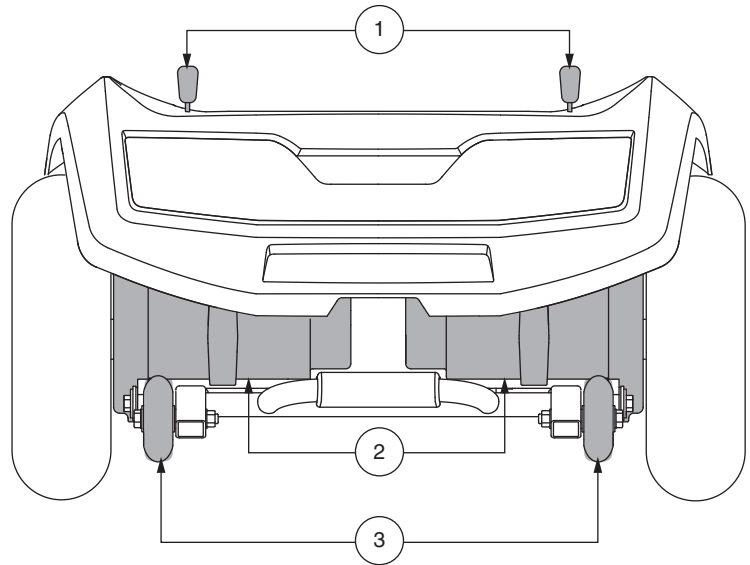
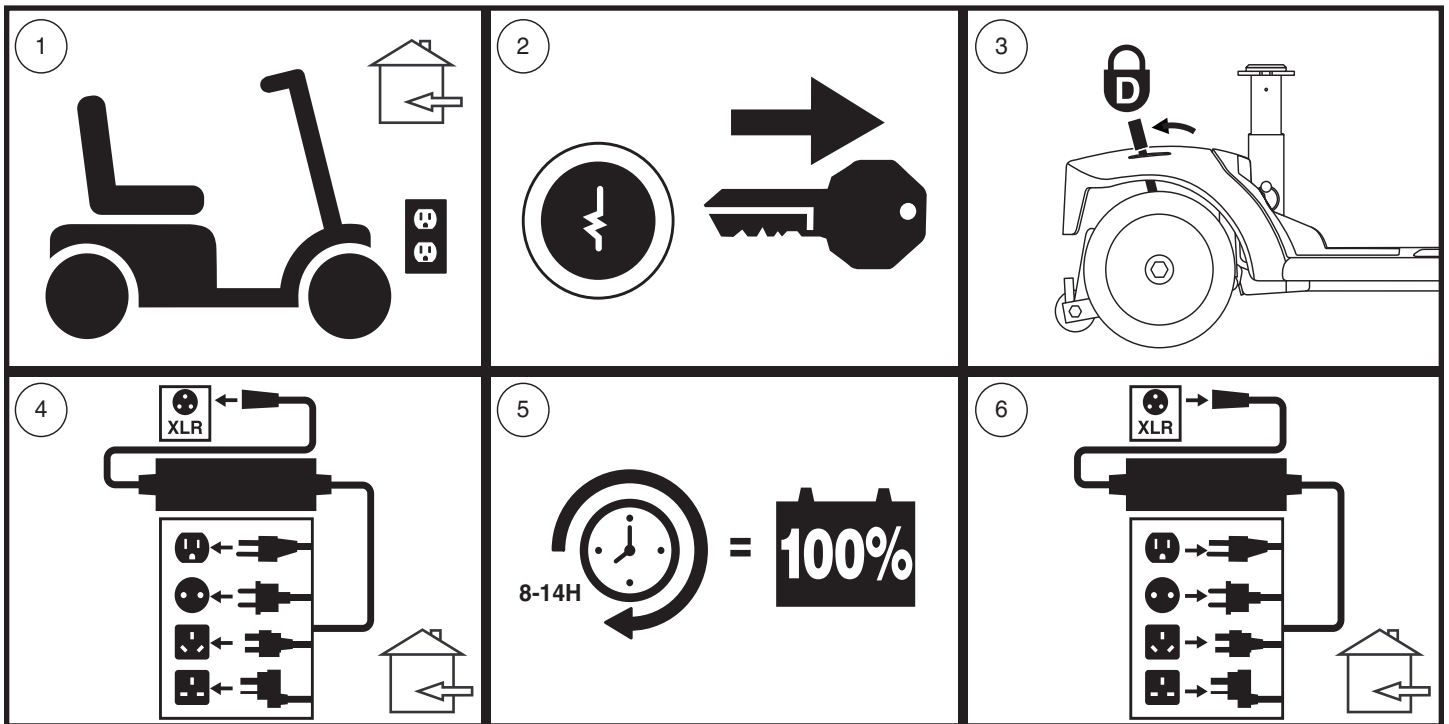

Figure 7. Rear Components - 710ZT
Figure 12. Battery Charging Procedures Diagram
For your convenience, your scooter has a manual freewheel lever on each motor. Manual freewheel levers enable you to disable the drive system in order to maneuver the scooter manually. See figure 7.
1. Locate the levers on the rear section of the scooter. See figure 7.
Follow the 6 easy steps in figure 12 to charge your batteries safely:
NOTE: For model 710ZT, the manual freewheel levers operate in the opposite direction (see figure 7). Therefore, for step 3 of figure 12, the levers must be pushed forward to engage drive mode.